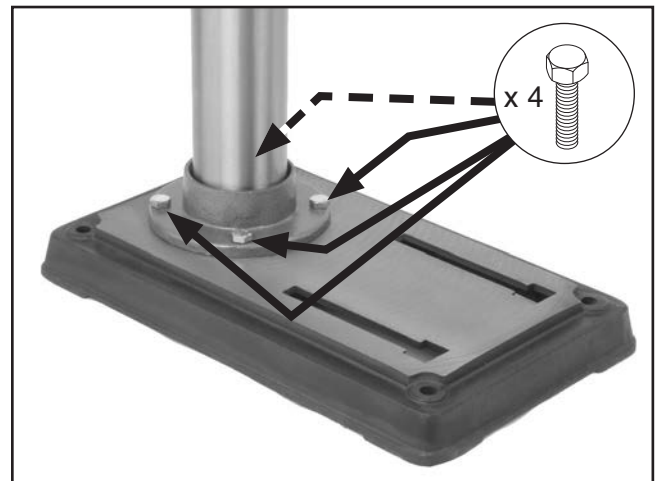

Figure 12. Column secured to base.
2. Secure column to base with (4) hex bolts, as shown in **Figure 12**.